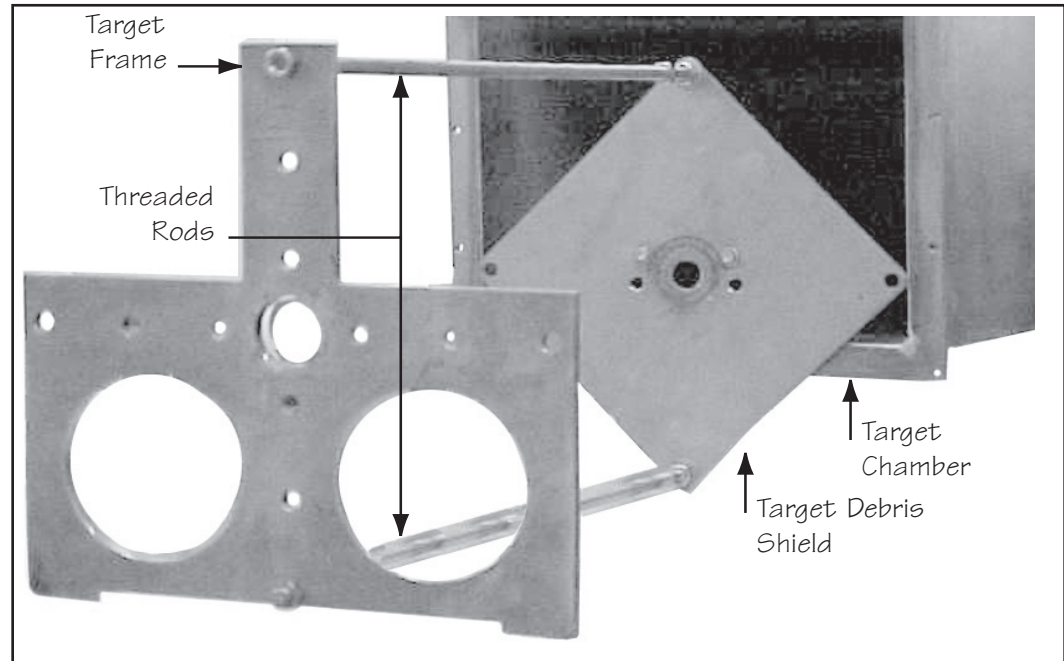

Figure 4.1-4.
4.1.2.4. **Position** the plexiglass target chamber shield, and **secure** it using C clamps (Figure 4.1-4).